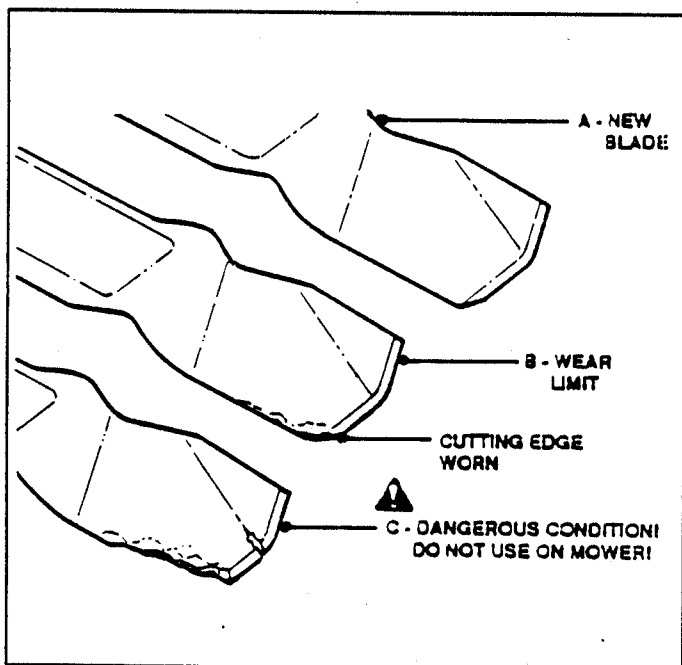

FIGURE 12
- Replace Blade if badly chipped, bent, out of balance, or as soon as notch starts wearing in the tip between the flat surface and upturned lift as shown in Figure 12. This type wear pattern occurs more rapidly under sandy soil conditions.